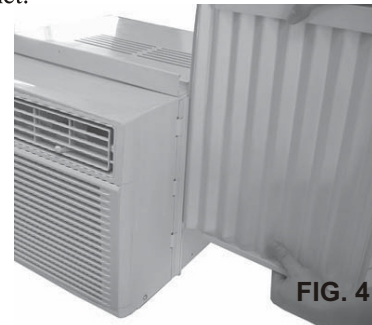

FIG. 4
B. Slide the free end of the panel into the cabinet as shown in Figure 4. Slide the panel down. Be sure to leave enough space to slip the top and bottom of the frame into the rails on the cabinet.